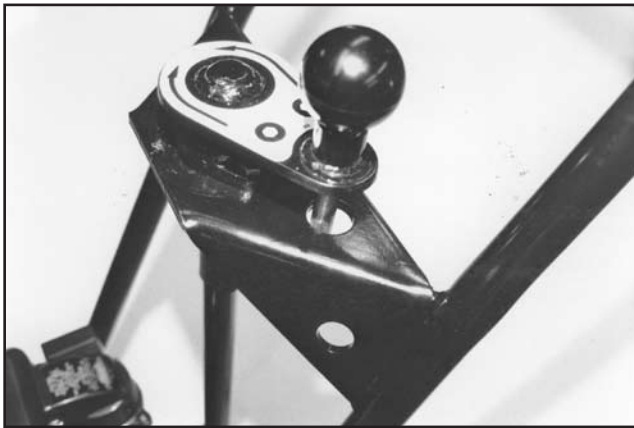

FIGURE 23
1) Push the Quik-Pitch lever forward to its stop. This action will allow the height adjustment lever system to travel over center and lock itself into position. A worn Quik-Pitch system will not allow the lever to travel over center and properly lock. FIGURE 23.